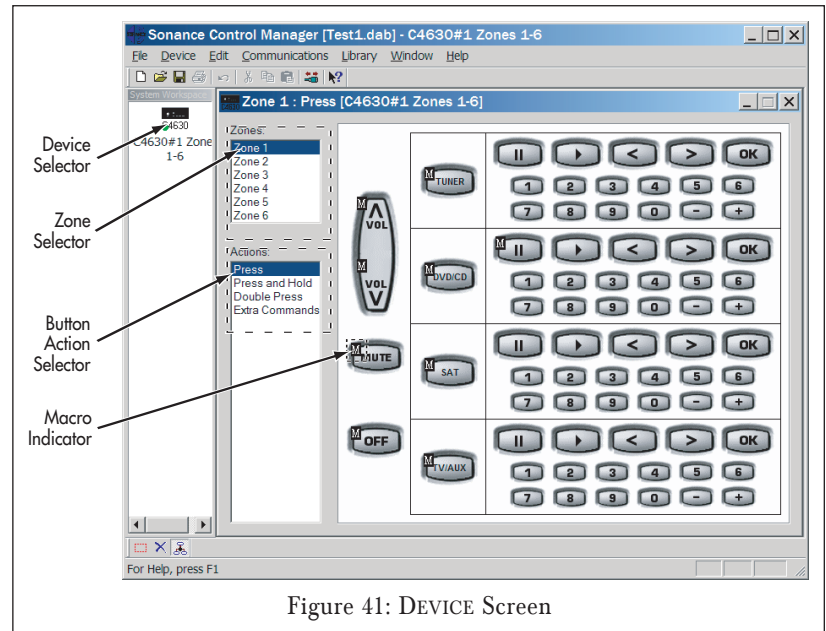
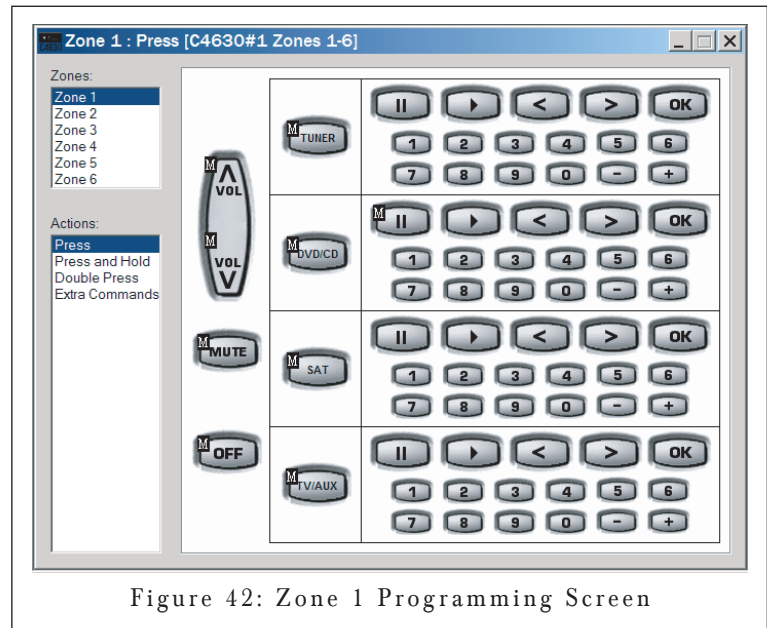

Figure 41: DEVICE Screen
Figure 42: Zone 1 Programming Screen
### Device Screen (Figure 41)
1. Open the DEVICE screen (see *Figure 41*, on page 31).
2. If the system has more than one C4630 SE, use the DEVICE SELECTOR (see *Figure 41*) to select the one you want to program. The Zone 1 programming screen for that C4630 SE will appear (see *Figure 42*).
1. Open the system and select the C4630 SE. The Zone Programming Screen (Figure 42, on page 32) will appear.